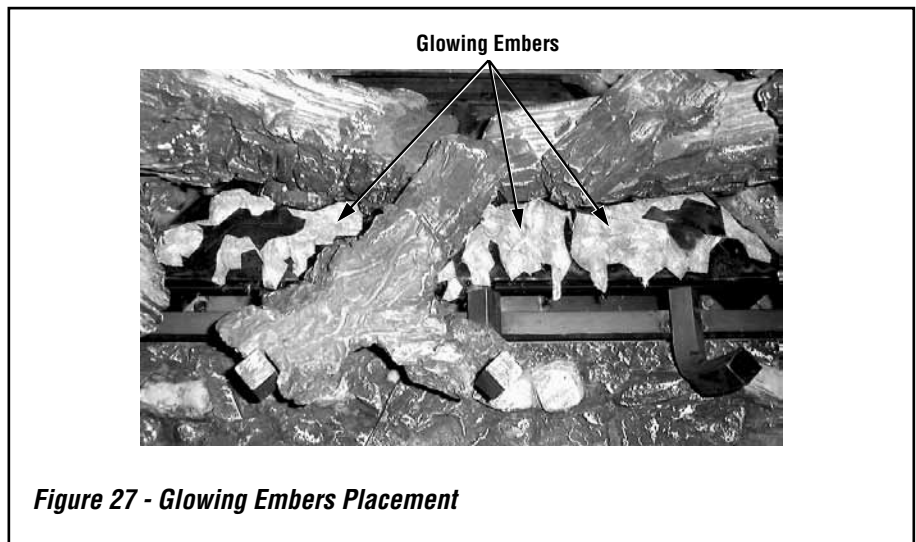

Figure 27 - Glowing Embers Placement
Step 3. Separate the glowing embers (rockwool) into pieces about the size of a quarter (see **Figure 26**). Keep the pieces fluffed up, not matted. Distribute these pieces over the front surface of the burner, as shown in **Figure 27**. Do not use more than is necessary. When properly positioned, the Glowing Embers will cover approximately 65% of the front burner and with no appreciable gaps or openings. Ensure that the main burner ports remain uncovered by the ember material.
Position the individual logs as shown below. Logs should be placed in the order shown. Position the center log on the burner first, then place the glowing embers as shown in **Figure 27**. Place the rear log, both the right and left, and then the smaller left and right top logs. All logs that have notches to fit over the grate tines should be positioned with these notches directly against the grate. All top logs that rest on lower logs, do so over flattened mounting faces in the bottom logs.